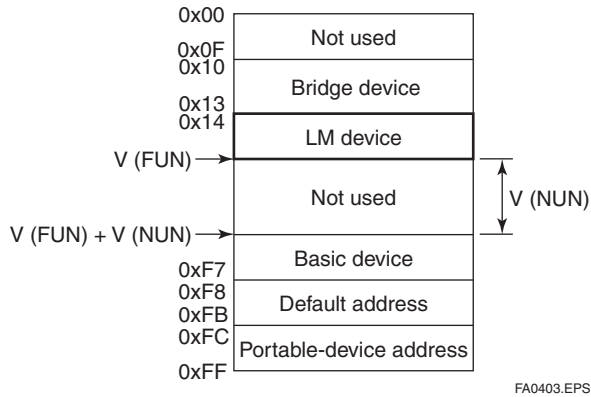

Figure A4.3 Node Address Ranges
- (3) Set the values of LAS setting V(FUN) and V(NUN) of this product so that they include the node addresses of all devices on the link. (See Figure A4.3.)